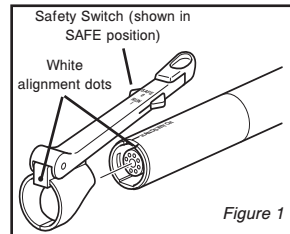

Figure 1
1. Slide safety switch to SAFE position. Figure 1.
2. Align white dots and press handswitch band over end of handpiece. Figure 1.